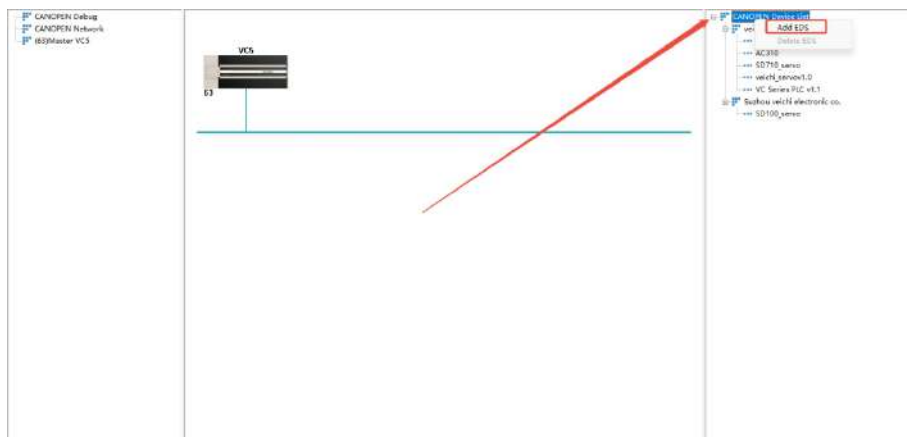

Figure 3-13 Import EDS File
Step 5: In the configuration interface, right-click the CANopen Device List on the right and click Import EDS. This imports the EDS file that matches the servo controller, as shown in Figure 3-13.